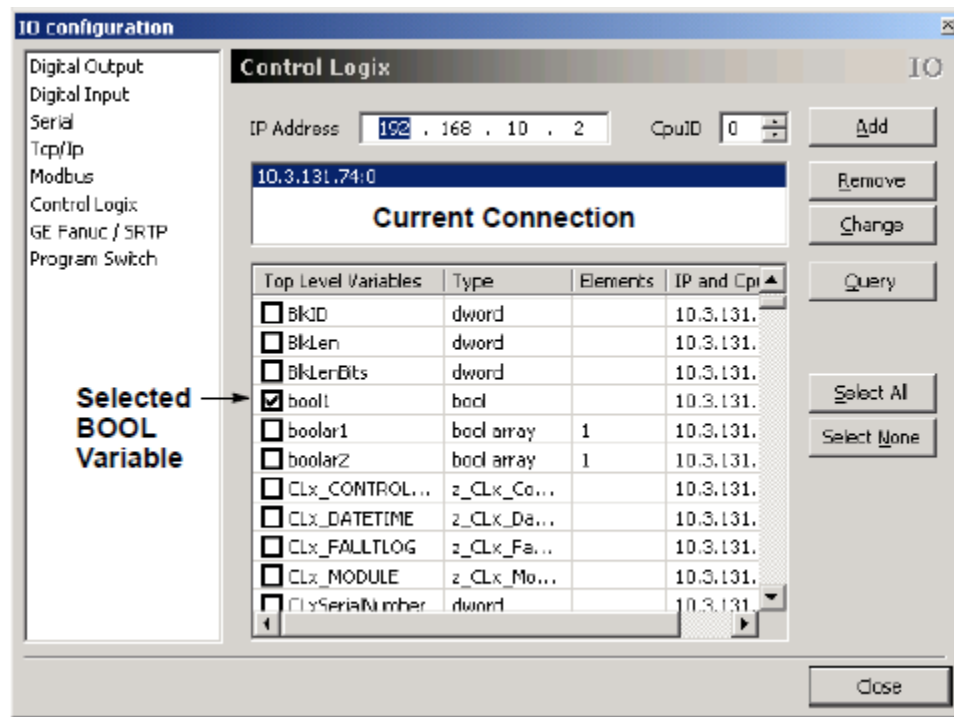

Figure 55. Selecting ControlLogix Variables
1. Enter the IP Address and CPU ID (usually 0) of your ControlLogix controller, then click “Add”. The IP Address, with the CPU ID appended, will appear in the middle field (figure 55). A connection is uniquely identified by the pair <IP address>:<CPU ID>. The connection is kept open as long as it is present in the middle field. *Use only valid addresses. It will take a while to time out every time Sherlock attempts to re-open an invalid connection.*
3. Use the check boxes in the list of variables (bottom field), to select which variables will be available as handles in the IO instructions. You can use the “Select All” and “Select None” buttons to select and de-select variables. See Figure 55.
Add - click to add your defined connection. Defined connections will appear in the middle field in this menu. See figure 55.